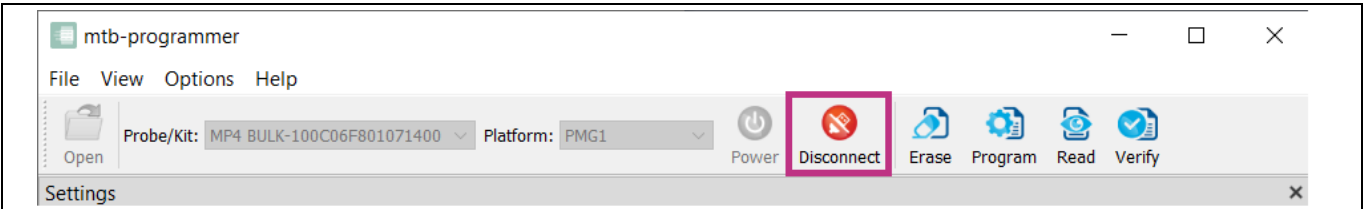

Figure 17 Disconnecting from target after programming
9. Click **Disconnect**, as shown in Figure 17.